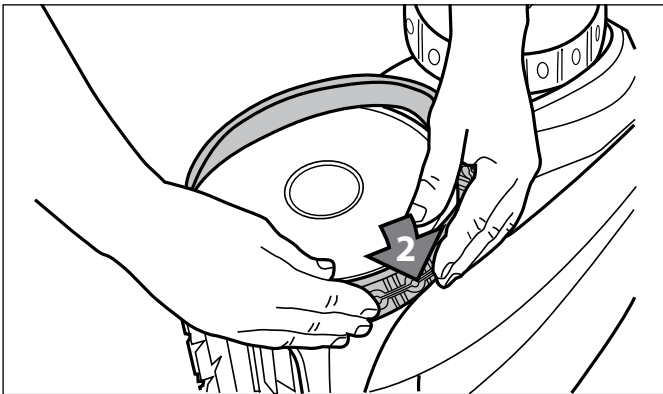

Figure 38. Start on One Side of the Tire
4. Push one side of the tire on to the wheel and fit the rib of the tire in the groove of the wheel (Figure 38).